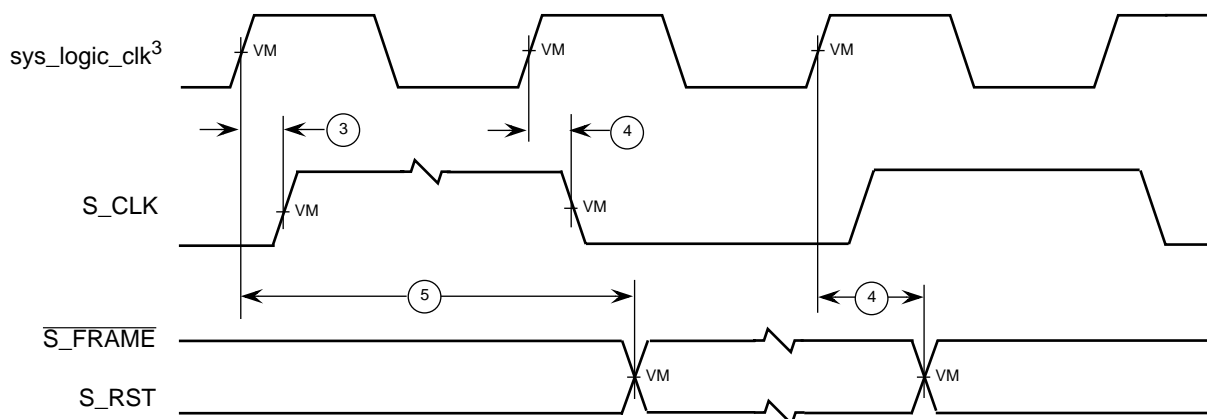
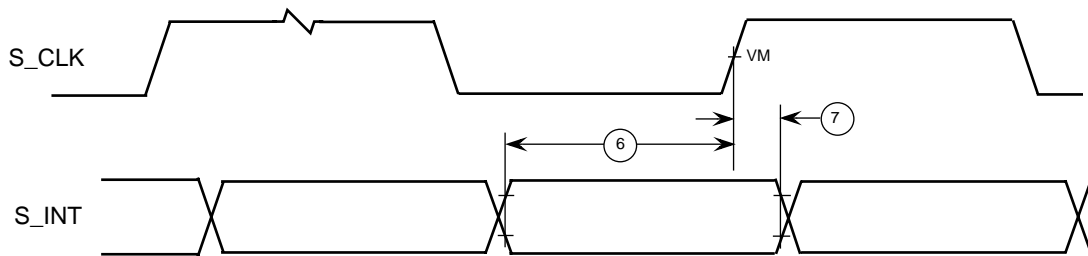

Figure 16. EPIC Serial Interrupt Mode Output Timing Diagram
Figure 17. EPIC Serial Interrupt Mode Input Timing Diagram
- 2 S_RST, $\overline{S_FRAME}$, and S_INT shown in Figure 16 and Figure 17 depict timing relationships to sys_logic_clk and S_CLK and do not describe functional relationships between S_RST, $\overline{S_FRAME}$, and S_INT. See the MPC107 User's Manual for a complete description of the functional relationships between these signals.
Figure 15 and Figure 16 show the EPIC serial interrupt mode output and input timing diagrams respectively.